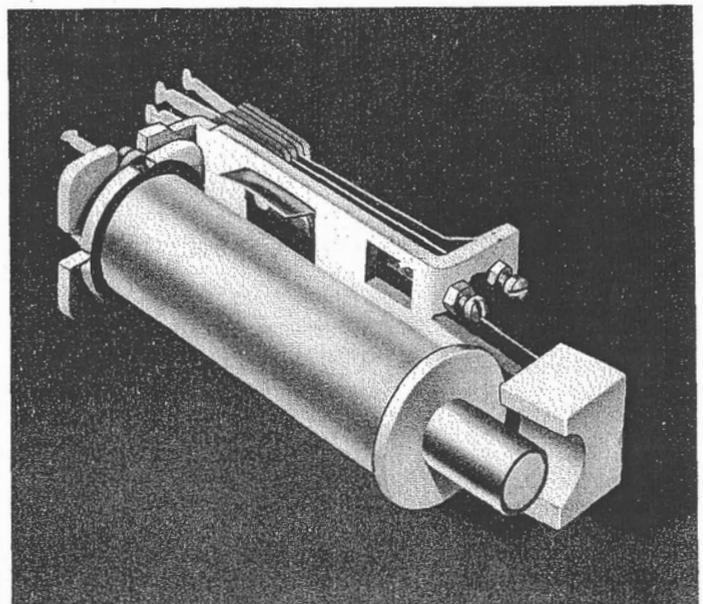

Figure 7. Vibrating-reed relay (figure 4 relay K).
**5.08 Tick tone.\*\*** Relay L restores, opens the circuit of vibrating-reed relay K, opens the circuit of relay B, closes the plus and minus lines to relay A, and opens the reversing control (RC) leads. Relay K (figure 7) restores; the